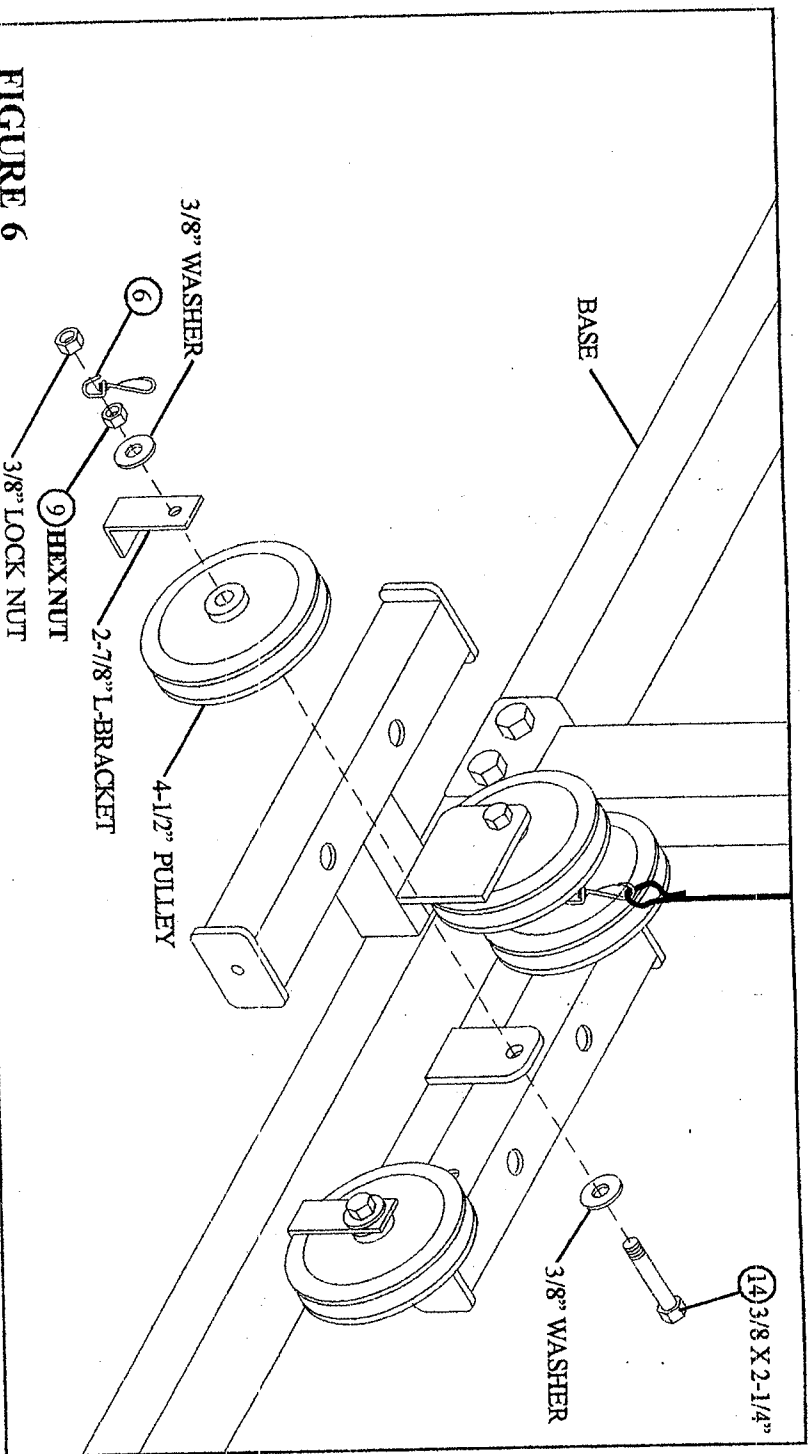

FIGURE 6
SECURELY assemble the previously removed 4-1/2" PULLEY to the BASE using one 3/8 X 2-1/4" BOLT (14), two previously removed 3/8" WASHERS, one previously removed 2-7/8" L-BRACKET, one SWIVEL SNAP (6), one 3/8" HEX NUT (9), and one previously removed 3/8" LOCK NUT. See FIGURE 6.